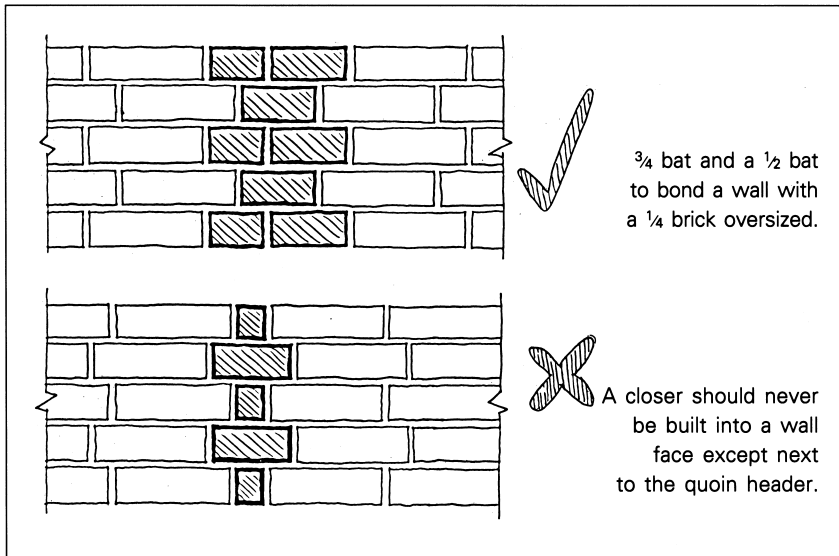

Figure 8.10 Broken bond.
- (a) No cut less than a half-bat should appear on the wall face. (See figure 8.10)